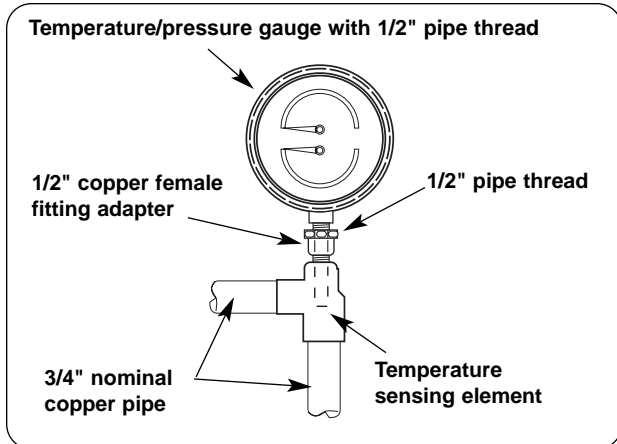

Figure 14. Recommended Temperature/Pressure Gauge Installation
3. Install a temperature/pressure gauge in both the inlet and outlet lines. Install the temperature sensing bulb in the water stream. The gauge must be mounted upright. (See Figures 14 and 15.)
2. Install a temperature/pressure gauge in the outlet line. The temperature sensing element must be in the water stream and the gauge must be mounted upright. Water temperature at the outlet should be 185°-190°F (85°-88°C). (See Figure 14 or 15.)